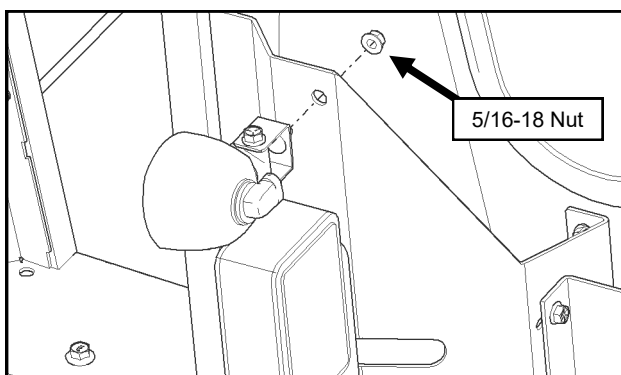

Fig. 18.4 (Assemble OEM Fender Lights to Cab)
- 18.4** See fig. 18.4. Mount one light onto the left ROPS bracket and position it as desired. Tighten hardware.